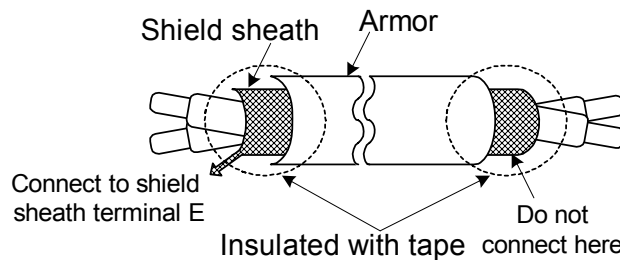

Fig. 3. Processing the ends of twisted-pair cables
- (1) Separate the control circuit wiring from main circuit wiring (R/L1, S/L2, T/L3, U/T1, V/T2, W/T3) and other high-power lines to avoid noise interruption.
- (2) Separate the wiring for control circuit terminals RA-RB-RC (R1A-R2B-R2C) (contact output) from wiring for terminals ① ~ ⑧, A01, A02, GND, DO1, DO2, DOG 15V(or +12V, -12V), VIN, AIN, AUX, GND, IP12, IG12, A (+), A (-), S(+) and S(-).
- (3) Use the twisted-pair or shielded twisted-pair cables for control circuits to prevent operating faults. Process the cable ends as shown in Fig. 3. The max. wiring distance should not exceed 50 meter.